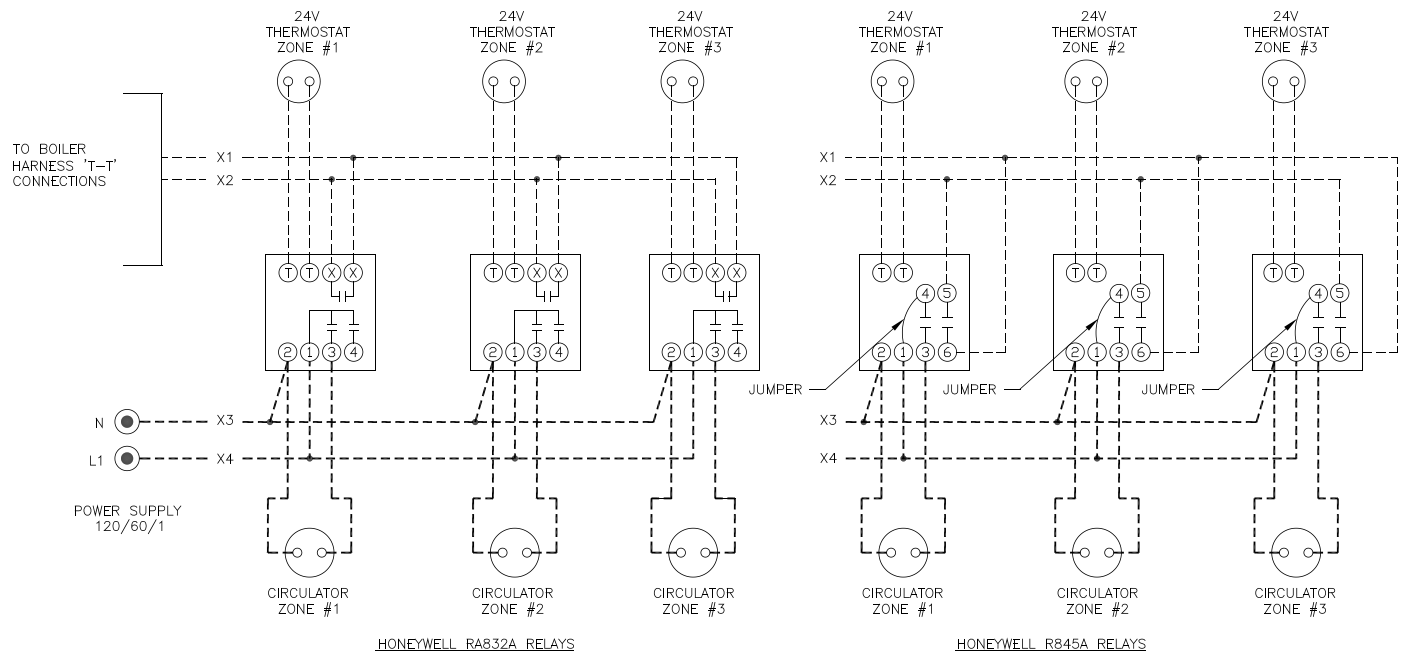

Figure 14: Wiring Schematic, Zone Circulators
- C. Wire thermostat.** Provide Class II circuit between thermostat and boiler. Set thermostat heat anticipator to 0.3 amps. See Figure 14.